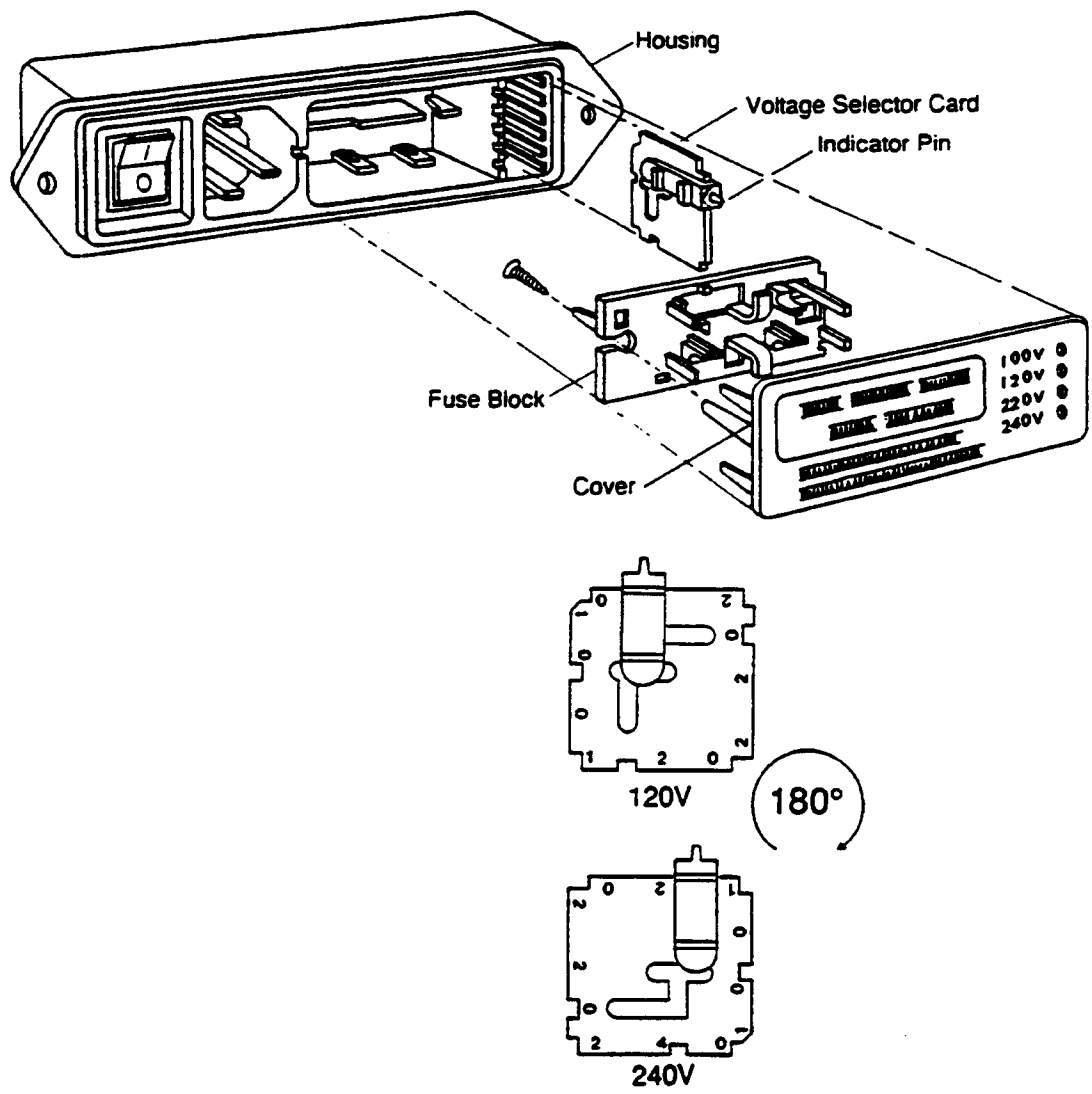

Figure 2. Power Entry Module Voltage Selector
4.1 ELECTRICAL CONNECTIONS (See Figure 2)
3. Orient the plastic indicator for the proper voltage as indicated in Figure 2, then press the selector card back into place.